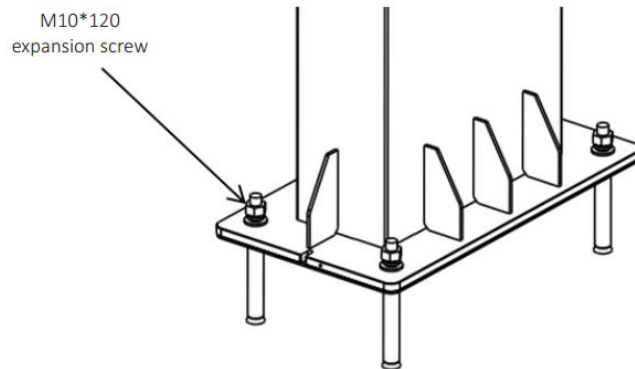

Figure 4-46 Install the pole to the concrete foundation
(2) Fasten the pole to the concrete foundation with 4 M10 x 120 expansion screws (as shown in Figure 4-46) .